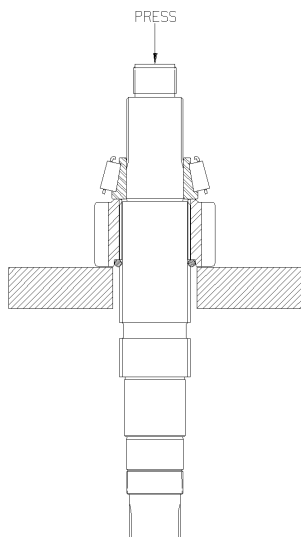

Fig. 27
3. Invert the shaft and remove the under-drive gear and front support bearing as shown. See Fig. 27.